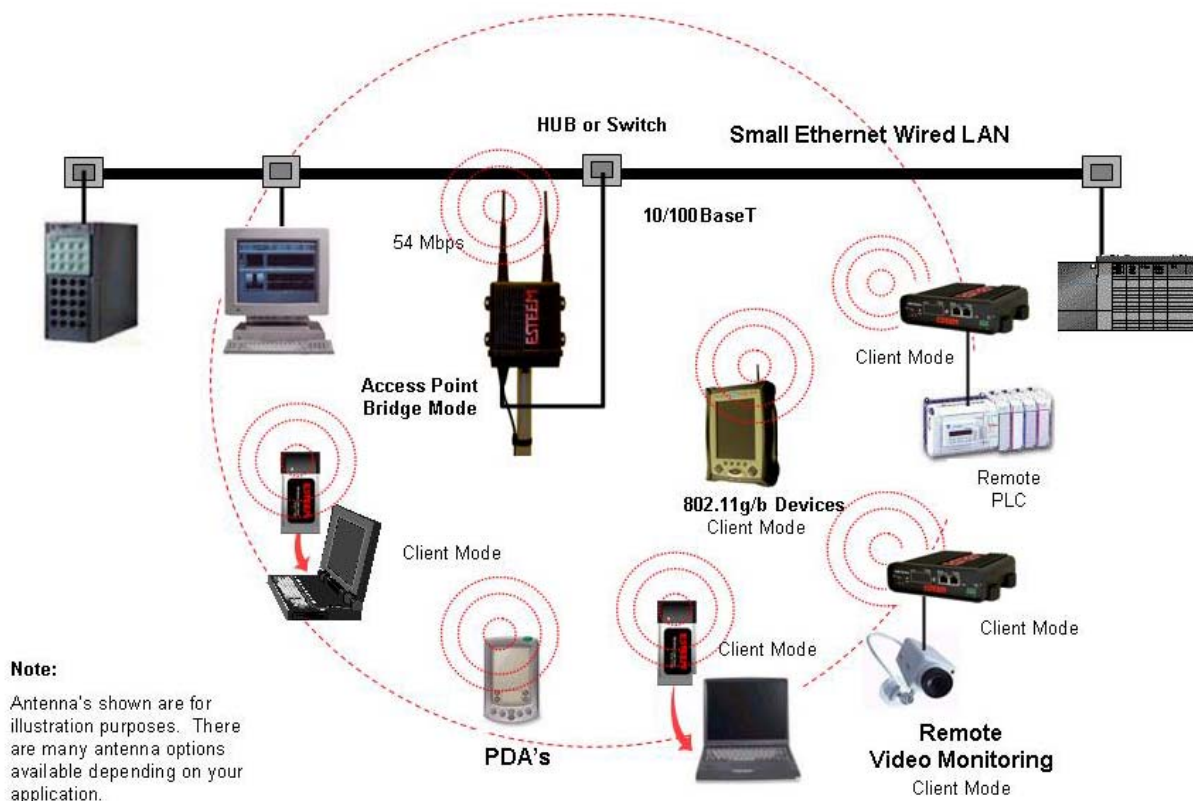
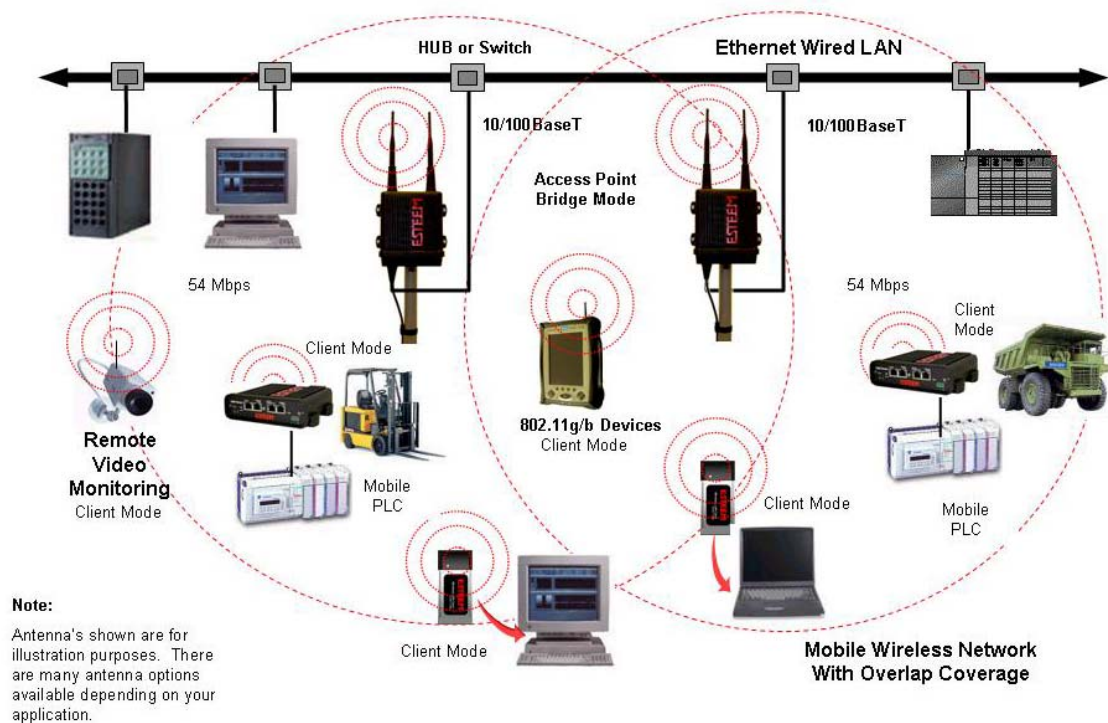
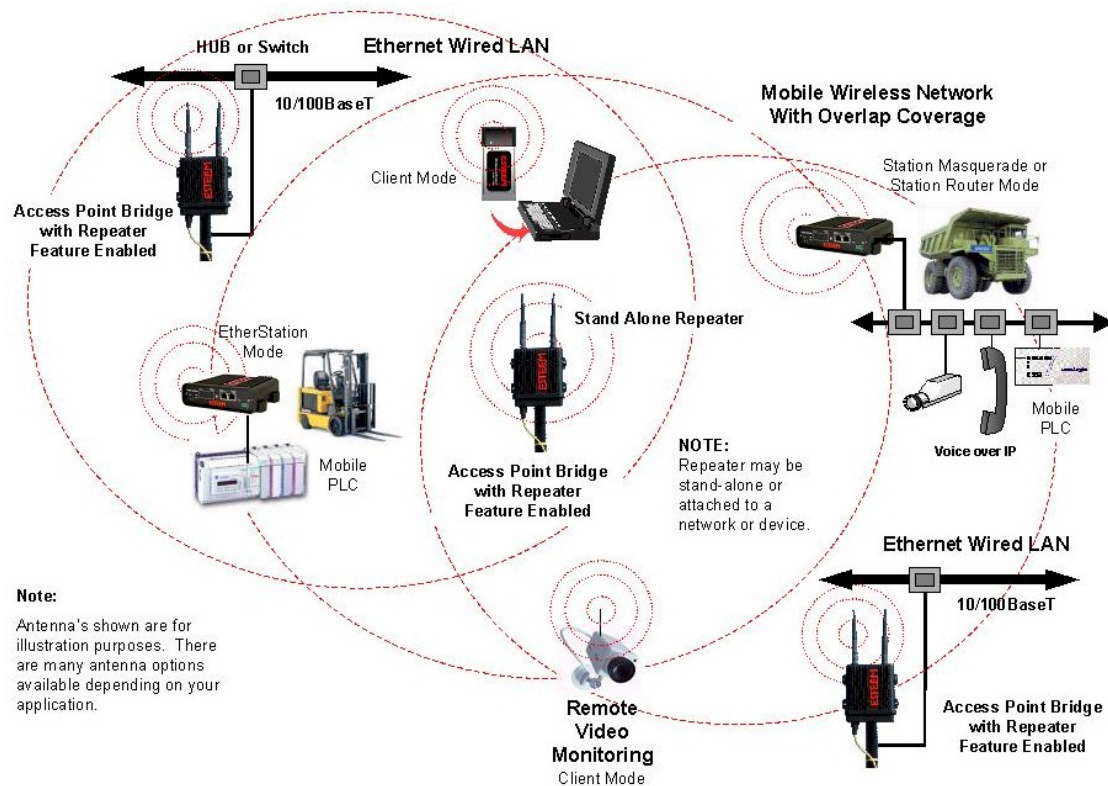

Figure 6: Single Access Point Network
Figure 7: Overlapping Access Point Coverage
Figure 8: Access Point and Ethernet Bridge
The ESTeem 195E can be configured as a high power 802.11 Access Point (AP). The IEEE 802.11g/b Access Point (AP) functionality is available in all three of the Access Point modes (AP Bridge, AP Router or AP Masquerade). The Access Point mode will provide either a single wireless connection (Figure 6) or overlapping coverage (Figure 7) to create a “canopy” of wireless coverage for 802.11 devices. The ESTeem 195E in AP mode can function as both an Ethernet bridge or router and 802.11 AP simultaneously (Figure 8).